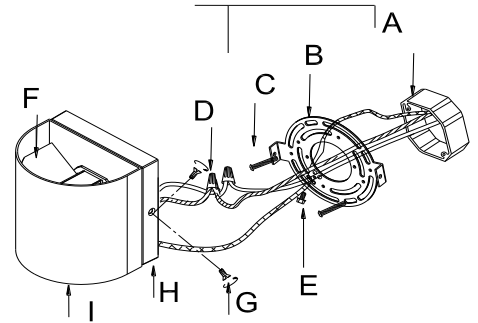

Fig.2
## CONNECTION THE WIRES (Fig. 2)
5. Connect the electrical wires as shown in (Fig.2), making sure that all wire connectors (D) are secured. If your outlet has a ground wire (green or bare copper), connect the fixture ground wire to it. Otherwise, connect the fixture ground wire directly to the mounting plate using the green screw provided.